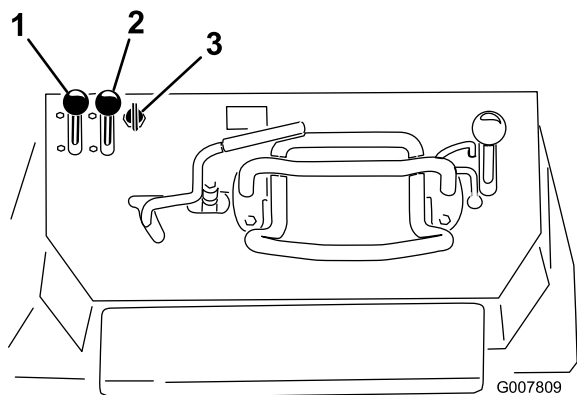

Figure 20
1. Move the throttle lever midway between Slow and Fast positions (Figure 20).
2. Move the choke lever to the Off position (Figure 20).
- For an electric start model, turn the key to the On position (Figure 20). When the engine starts, release the key.
4. Gradually move the choke lever to the Off position (Figure 20). If the engine stalls or hesitates, engage the choke again until the engine warms up.
5. Move the throttle lever to the desired setting (Figure 20).
1. Move the throttle lever to the Slow position (Figure 20).
3. Turn the key off (Figure 20).